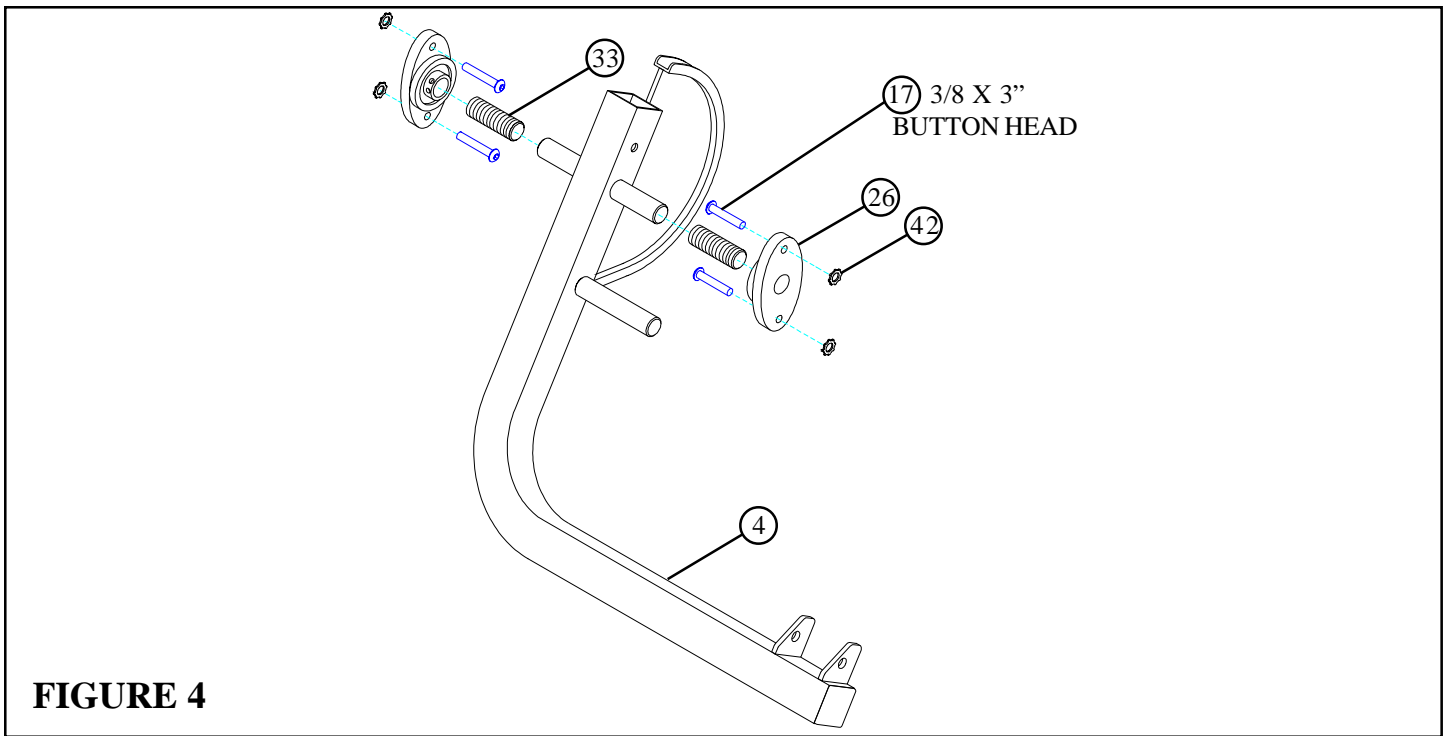

FIGURE 4
- Slide two ACCORDION SLEEVES (33) and two PILLOW BLOCKS (26) over the PIVOT ARM (4) as shown in FIGURE 4
- Assemble four 3/8 X 3" BUTTON HEAD CAP SCREWS (17) and four STARLOCK WASHERS (42) to the the PILLOW BLOCKS (26) as shown in FIGURE 4.